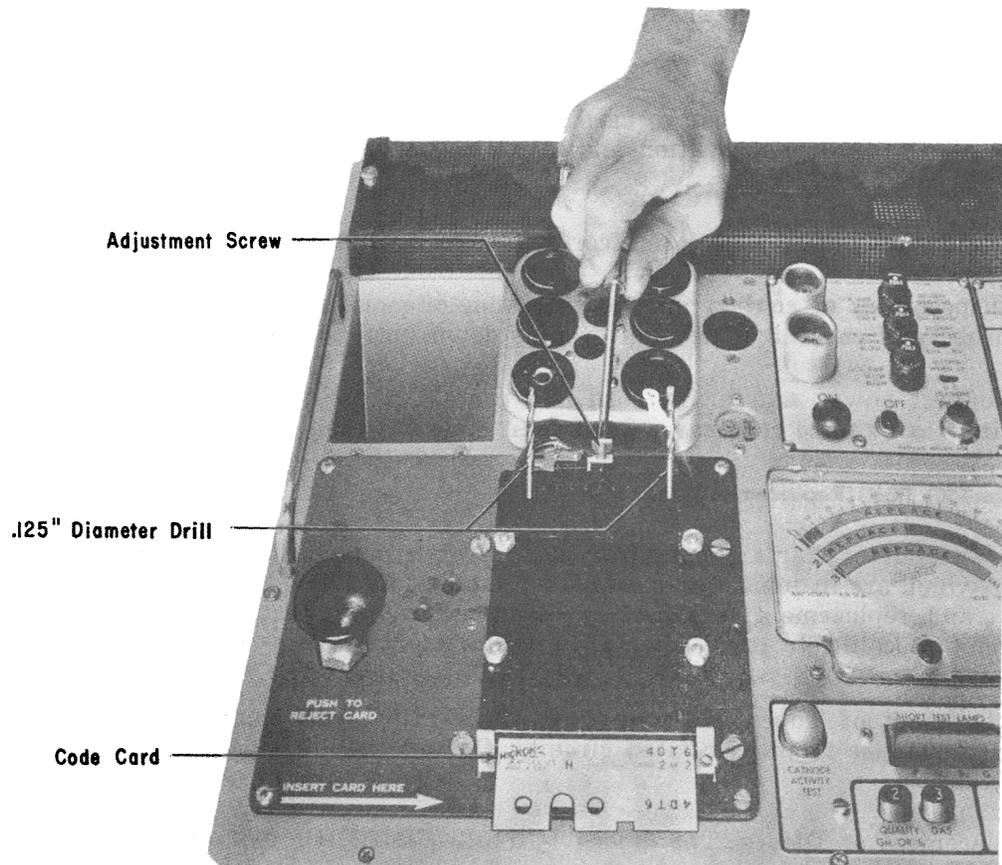

Figure 18. Adjustment of Upper Micro Switch
2. Insert two  $\frac{1}{8}$  inch diameter ( $\frac{1}{8}$  inch diameter) pins or drill shanks into the switch plate holes A-1 and L-1 to retain the code card. (See Figure 18).
(see Figure 18) until the micro switch actuates (an audible CLICK can be heard).
2. Observe the code card holes through the row 1 holes in the top switch plate. The code card material should just disappear (.005 inch) at the top of the row 1 switch plate holes when the micro switch actuates (an audible CLICK will be heard). If adjustment is necessary, turn the adjustment screw. (See Figure 18) until alignment is correct.